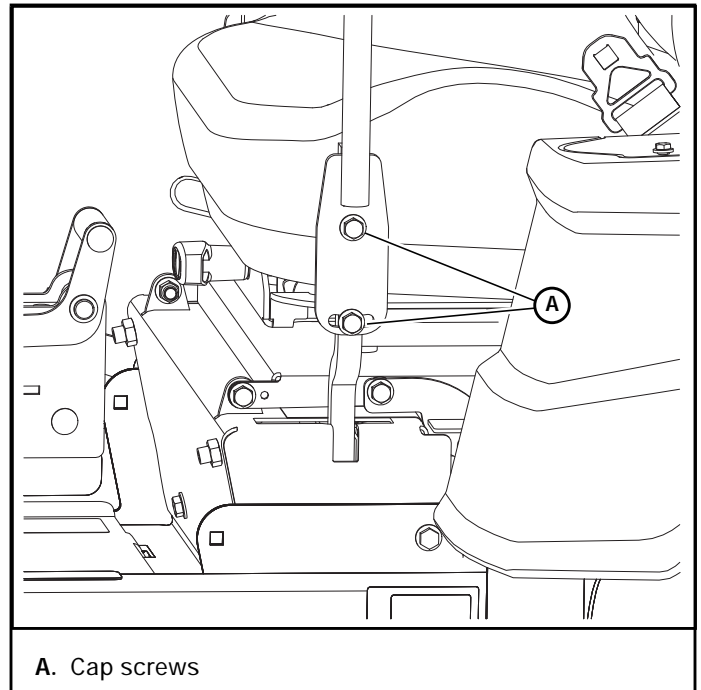

Figure 6-8
- Loosen the cap screws that attach the upper control lever to the lower lever, then pivot the upper control lever to fit the operator's personal preference. Figure 6-8